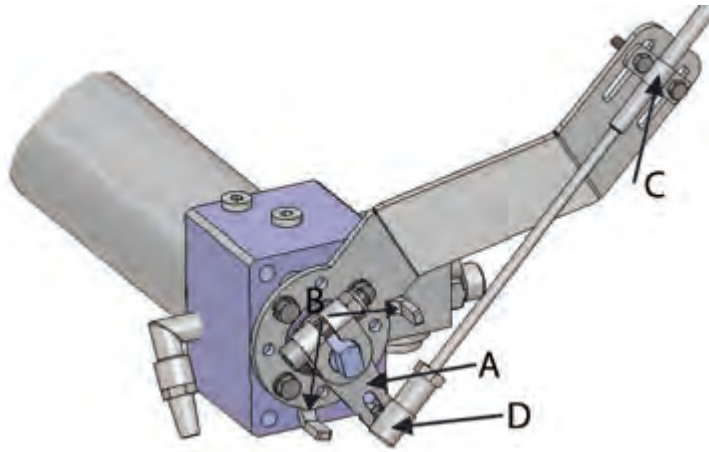

Figure 44. Attaching the operating lever
5. Place the lever (figure 44, point A) on the operating shaft so that it lies between the limiters on the support plate (figure 44, point B).
6. Attach the control cable with a fastener (figure 44, point C) to the support plate and with an angle joint (figure 44, point D) to the lever ball screw.
Fill the reservoir with oil before you start the engine. After you start the engine and put it into forward gear, the oil is transferred from the reservoir into the system and the pump automatically removes air from the system. If the oil level decreases in the reservoir, add some oil. There is a dipstick in the reservoir that you can use to check the oil level (figure 35). Occasionally move the hydraulic cylinder's operating lever back and forth (figure 44, point A) so that the cylinder fills with oil.